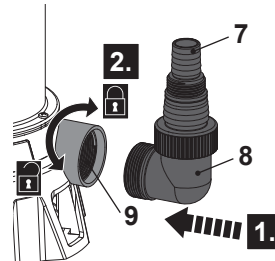

Fig. 2
2. Align and screw the adaptor (2") (8) clockwise to the outlet nozzle (9) (Fig. 2). Tighten it properly.